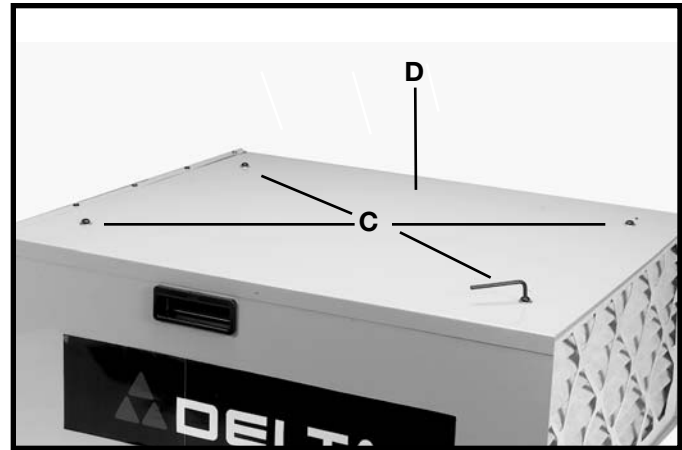

Fig. 5
2. Use a 5/32" Allen wrench (not supplied) to remove the four screws, (C) Fig. 5, from the top of air cleaner (D).